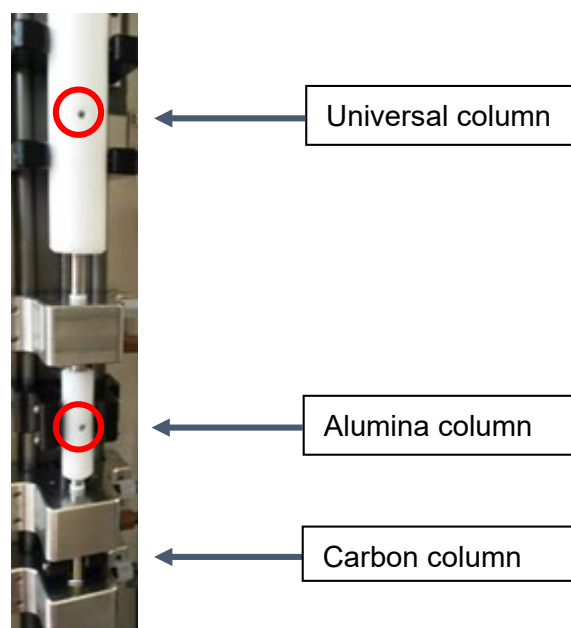

Figure 165: Column sequence and correct insertion of the dummy column. Columns 1 and 2 with the bore visible at the front.
- Check that columns in the column tower are inserted in the correct order. If using the dummy column, columns 1 and 2 need to be inserted in the column tower with the bore showing at the front (see Figure 165).